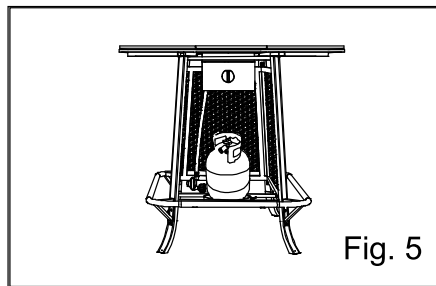

Fig. 5
3) Connect the regulator to the propane tank as shown (Fig. 5). Perform a leak test as described on page 11.